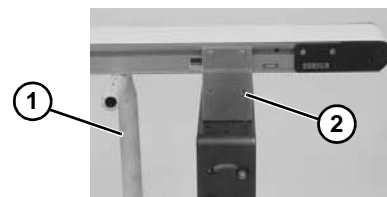

Figure 32
1. Place temporary support stands (**Figure 32, item 1**) at both ends of the conveyor.
2. Remove mounting brackets (**Figure 32, item 2**) from one side of conveyor. (Reverse steps 3 & 4 of “Mounting Brackets” section beginning on page 12.)
1. Ensure temporary support stands (**Figure 32, item 1**) are placed at both ends of the conveyor.